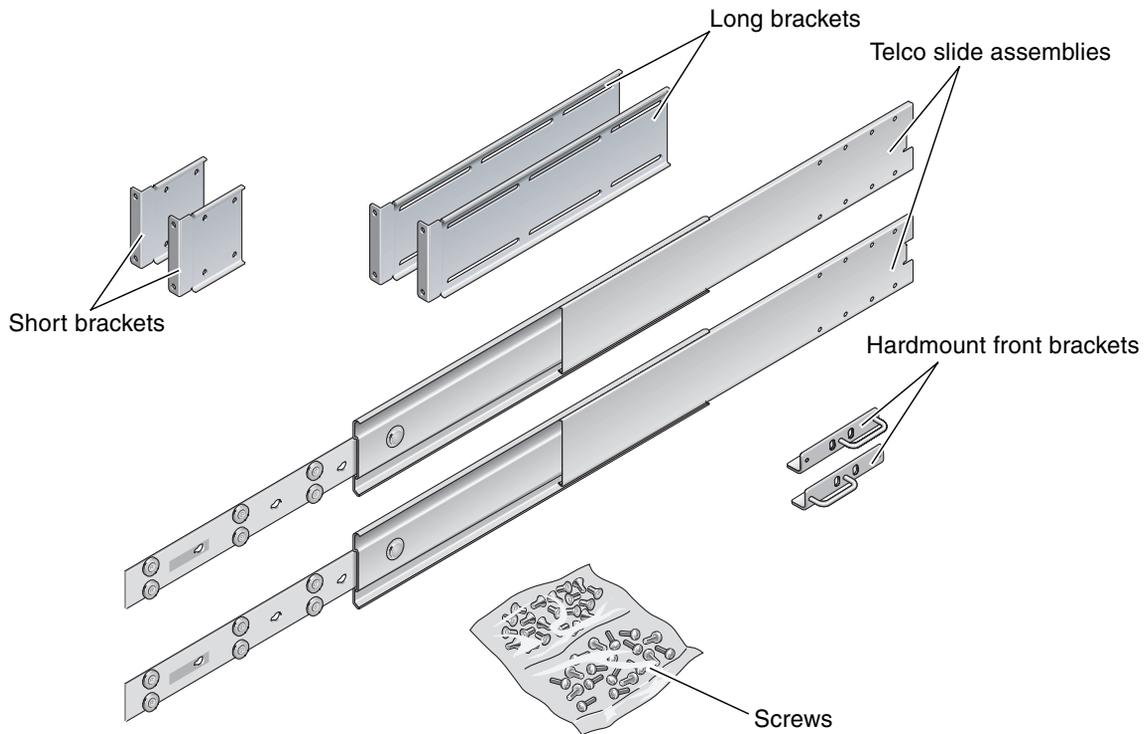

FIGURE 3-6 Contents of the Sliding Rail 19-Inch 4-Post Kit
- 1. Get the hardmount brackets and M5 x 8 mm flathead Phillips screws from the rack kit (FIGURE 3-6).**
3. Get the Telco slide assemblies from the rack kit (FIGURE 3-6).
6. Get the short brackets and long brackets from the rackmount kit (FIGURE 3-6).